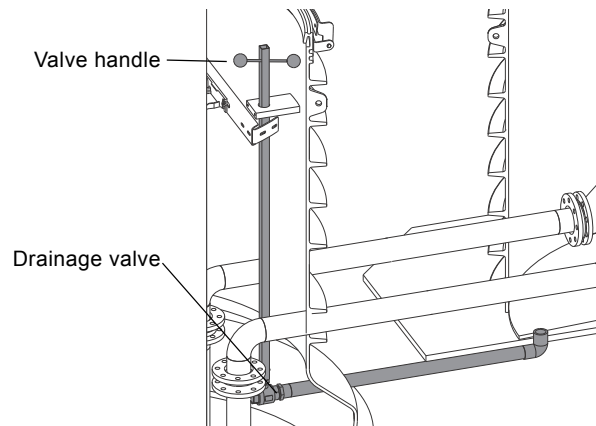

Fig. 36 Drainage valve
1. Open the valve chamber drainage valve by means of the valve handle in the pit in order to empty the sump of the valve chamber. See fig. 36.
7. Close the drainage valve inside the pit. See fig. 36.